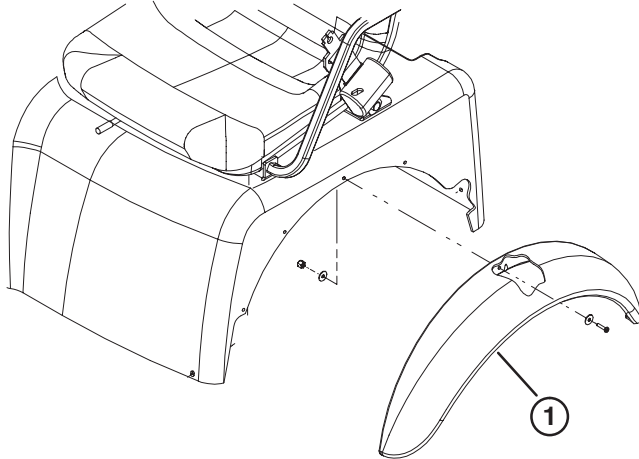

Figure 5
1. Align the five fender mounting holes with the holes in each side of body (Fig. 5).
2. Mount a fender to each side of body with (5) #10 x 3/4" lg. capscrews, (10) flat washers and (5) #10 locknuts. Position a washer next to capscrew head and locknut.